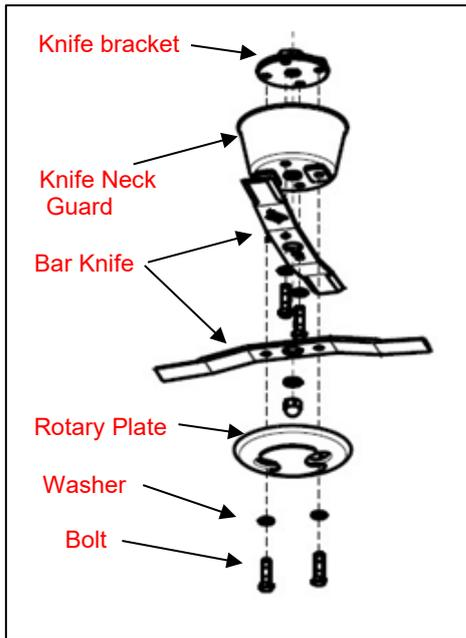

Figure 32
**OFFSET BLADE (FIGURE 32 & 33)**